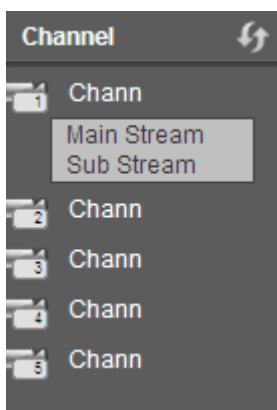

Figure 5-10
- Section 2: There are monitor channels successfully connected to the NVR. Please refer to Figure 5-10 for main stream and extra stream switch information.